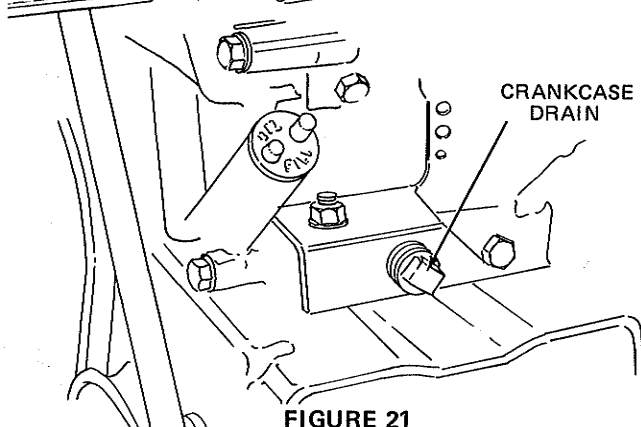

FIGURE 21
1. The crankcase should be drained when the engine is warm. Remove the cap from the drain pipe at the rear of the unit to drain. Replace the cap securely and fill the crankcase with clean 10W-30 grade MS motor oil. (Figure 21).